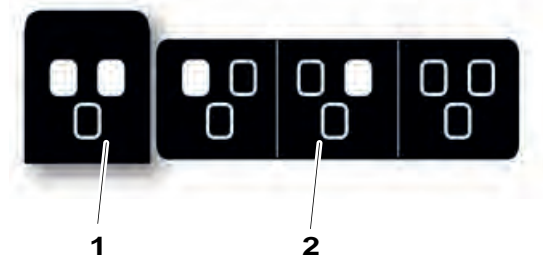

Fig. 3-25 AEC field selection
When selecting the *AEC field* button, a pop-up-window with the different AEC fields according to Fig. 3-25 *AEC field selection*, will appear. The *AEC fields* are activated by a selection in the pop-up window to the right (2). All activated *AEC fields* will be shown in the left picture (1). *AEC fields* are deactivated by selecting them again in the pop-up window (2).